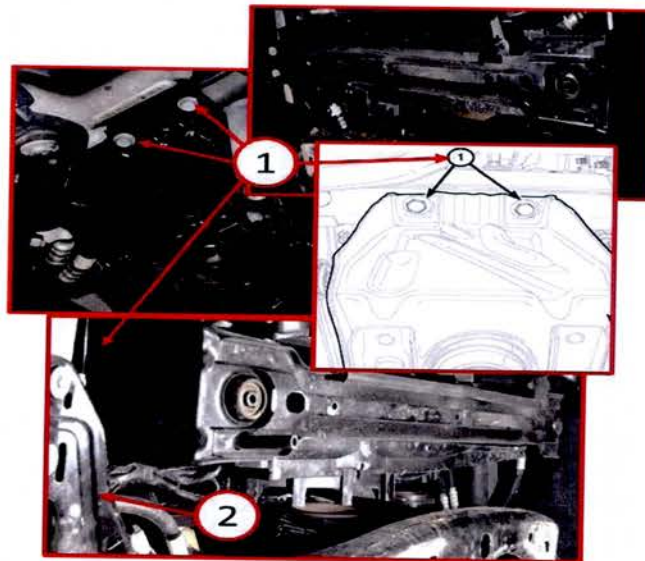
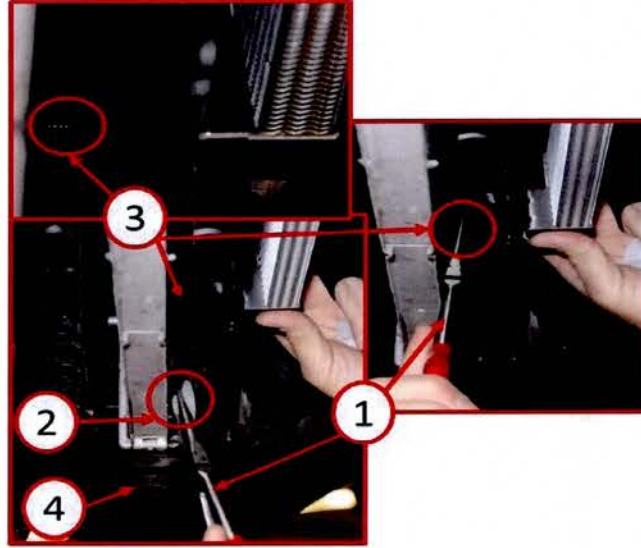

Fig. 1 Lower Radiator Support Removal
Fig. 5 Cooler Clip Installation
4. Using a suitable jack, remove the lower radiator core support bolts (1) (Fig. 1).
15. Using long needle nose pliers (1) attach the retaining clips (2) to the back of the cooler holding clips (3) located between the radiator and the condenser (Fig. 5).
16. Position the lower radiator core support to the vehicle. Refer to (Fig. 1).
17. Loosely install the lower radiator core support attachment bolts. Refer to (Fig. 1).
18. Seat the radiator assembly lower rubber isolators (4) (Fig. 5) into the mounting holes in the lower radiator support and tighten the attachment bolts. Refer to (Fig. 1).